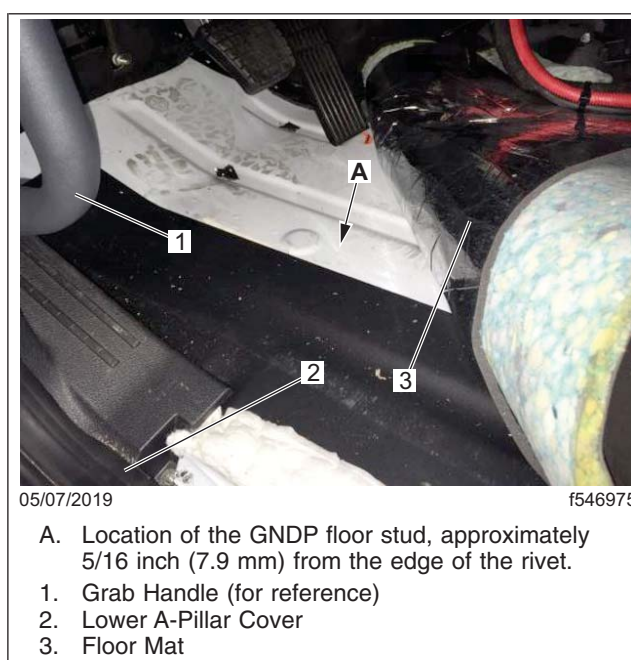

Fig. 4, GNDP Floor Stud Location
- 10.1 Remove the driver's-side sill cover, the lower A-pillar cover, and the lower steering wheel cover. See **Fig. 4**.